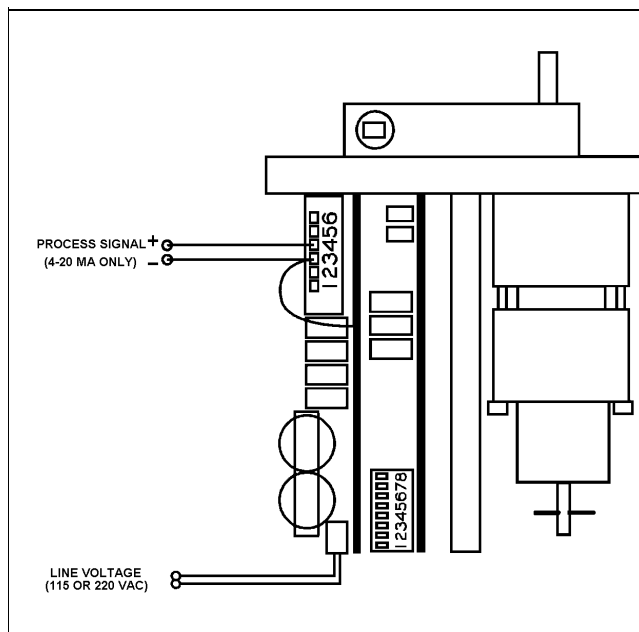

Figure 20. Wiring Diagram.
1. Wire the actuator per Figure 20.